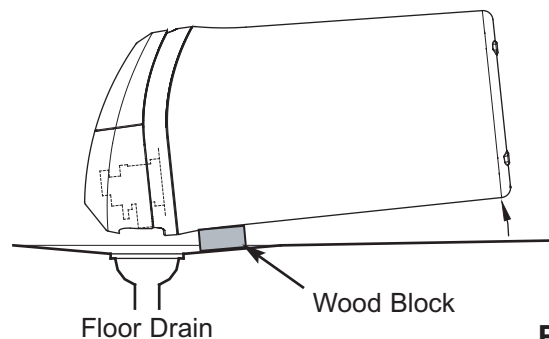

FIG. 33
6. Lay a piece of 5 cm thick board near the floor drain (See Figure 33).